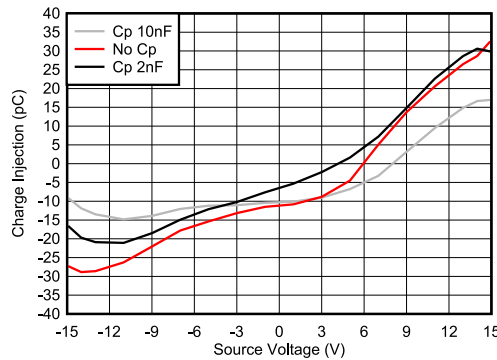

图 8-2. Charge Injection Compensation
The TMUX720x contains specialized architecture to reduce charge injection on the Drain (Dx). To further reduce charge injection in a sensitive application, a compensation capacitor ( $C_p$ ) can be added on the Source (S). By design, the excess charge from the switch transition will be pushed into the compensation capacitor on the Source (S) instead of the Drain (D). As a general rule,  $C_p$  should be 20x larger than the equivalent load capacitance on the Drain (D). 图 8-2 shows charge injection variation with different compensation capacitors on the Source side. This plot was captured on the TMUX7219 as part of the TMUX72xx family with a 100 pF load capacitance.